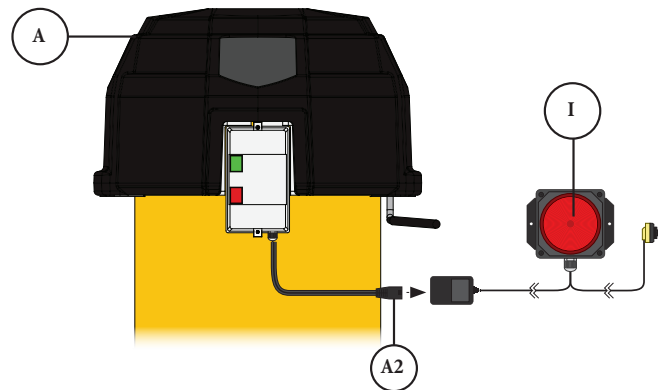

FIG. 24
Connect the Dust Sentry's power adapter (I) to the Dust Sentry Cord (A2) on the Motor Assembly's (A) magnetic starter [FIG. 24]. The Dust Sentry's strobe light (I) should be mounted in a highly visible area using adhesive strips or the two mounting holes.